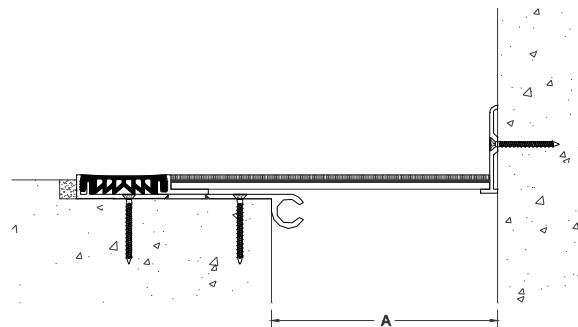

Figure 14
**STEP 17.** Select the finish floor material, by others, and install the finish floor material into the cover plate recess, see Figure 14. Install the finish floor material in accordance with the finish floor manufacturer's installation instructions.